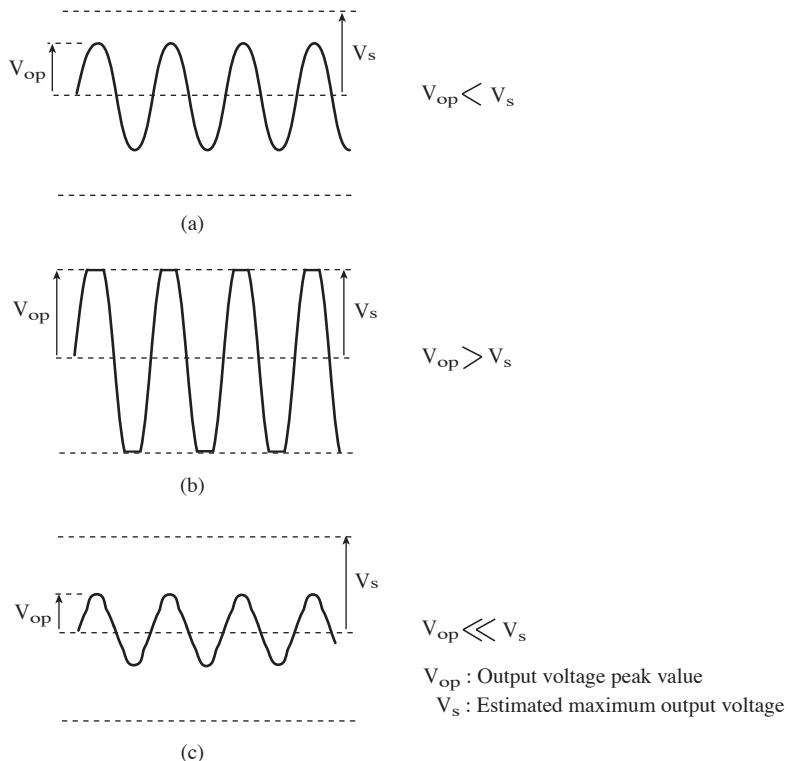

Fig.4-1 When the estimated maximum output voltage is set
■ When the estimated maximum output voltage is set (Fig. 4-1)
For cases (b) and (c) in Fig. 4-1, the waveform may be distorted. The extent of the distortion depends on the ratio of V_{op}/V_s , the output current waveform, and other factors. If the state specified in (c) continues for several seconds, an alarm may occur.